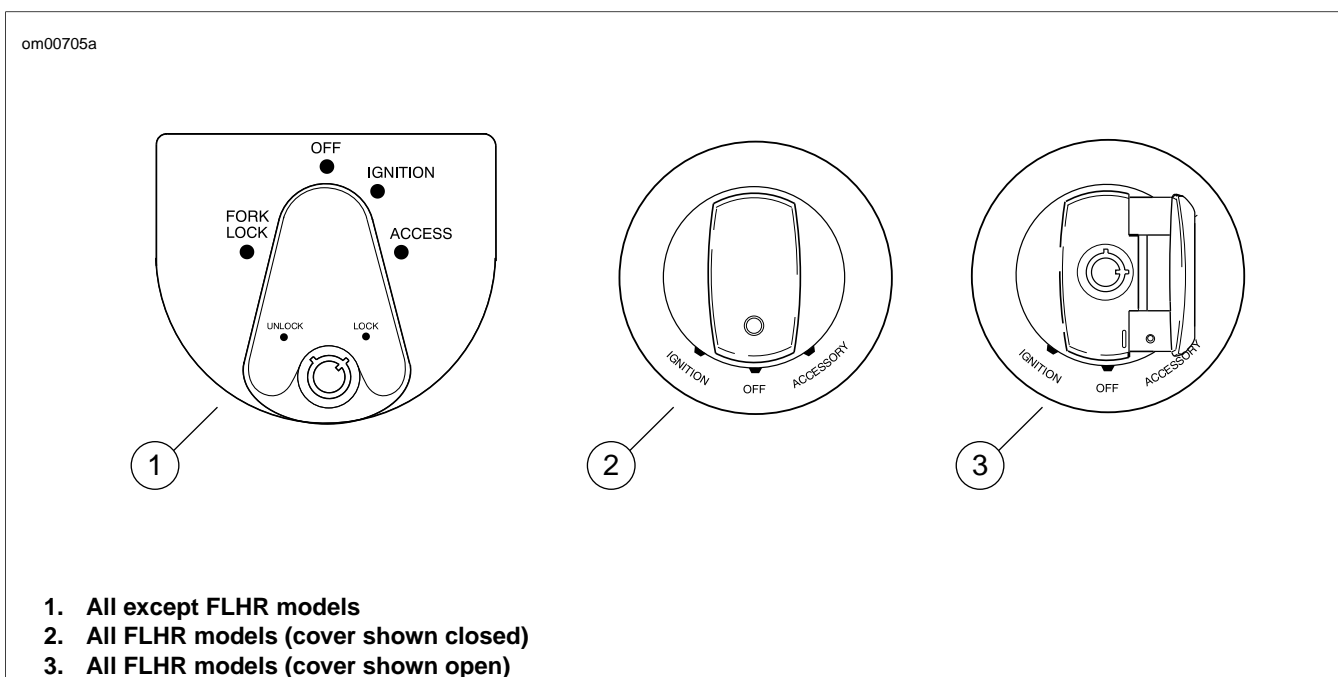

Figure 4-5. Ignition Switch: Touring Models
- See Figure 4-5. The ignition switch is turned to **IGNITION** and the engine stop switch is set to **RUN** (although the engine is **not** running).